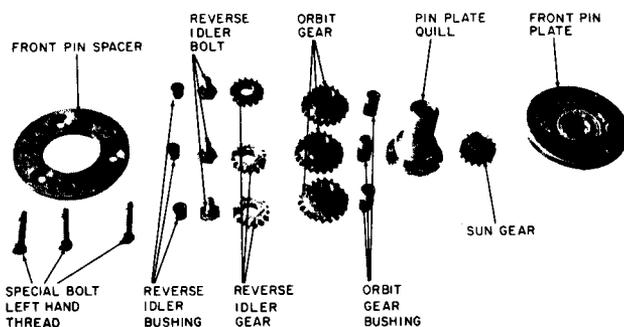

Figure 48
- b. Secure pin-plate quill to the pin plate with three (3) quill-securing bolts.
- d. Mesh the three gears with Sun pinion so that the timing marks form an equal sided triangle. Timing marks (A, Figure 48) are small punches on the opposite side of gears.